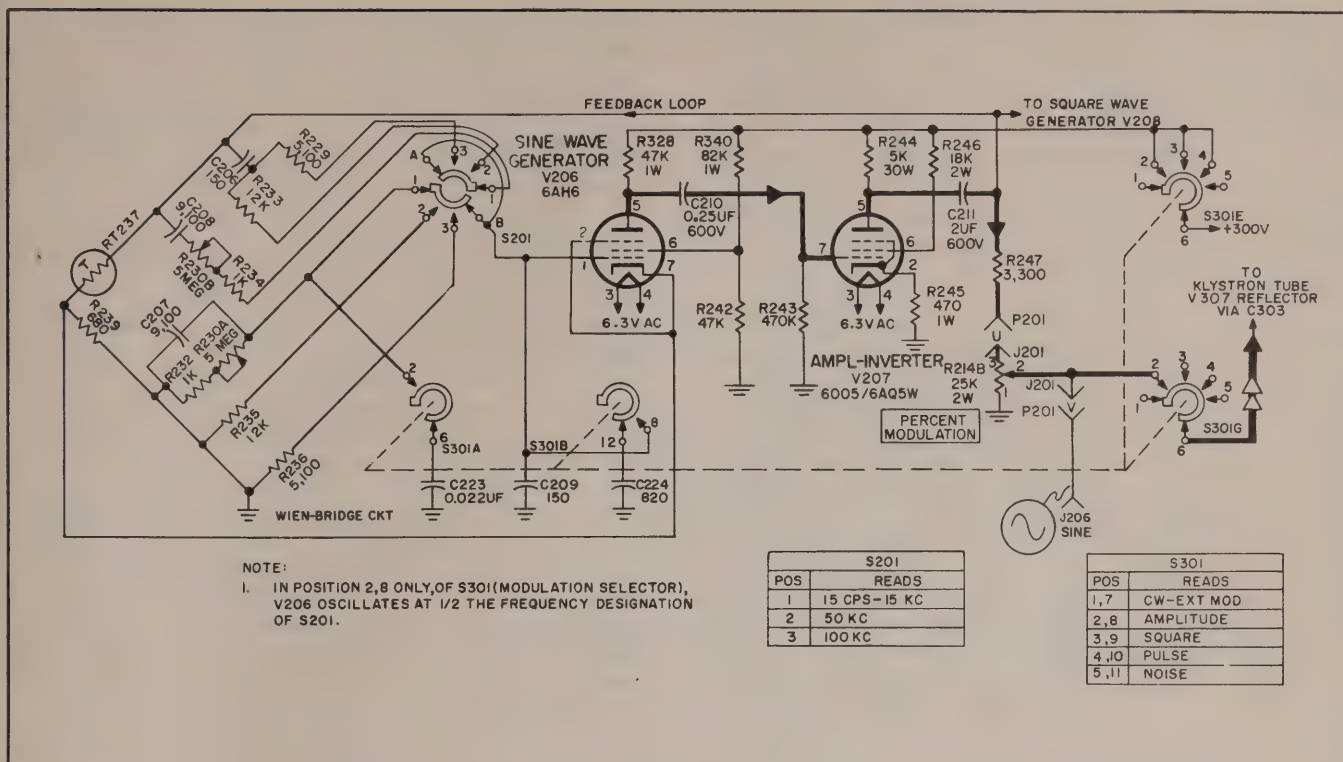

Figure 6-4. Sine-wave Generator, Simplified Schematic Diagram
6-10. INTRODUCTION. The sine wave generator (see figure 6-4) is a Wien-bridge type oscillator with selectable bridge circuit. The selectable bridge consists of resistance-capacitance networks, a thermistor RT237, a frequency selector switch S201, and a variable frequency control R230A-R230B. The oscillator consists primarily of tubes V206 and V207. Fundamentally, the circuit is a feedback amplifier with positive feedback for a frequency selected by the Wien-bridge network. It is an oscillator by virtue of the positive feedback loop. The following paragraphs describe the oscillator and Wien-bridge circuits.
**6-12. WIEN-BRIDGE CIRCUIT.** The bridge circuit is used to eliminate all frequencies except the desired frequency. The Wien-bridge allows a voltage of only one frequency to be fed back from V207 to V206 because of degeneration and phase shift provided by the circuit. The fixed legs of the Wien-bridge consisting of thermistor RT237 and resistor R239 provide degenerative feedback. This feedback is practically constant for all frequencies. The variable legs of the Wien-bridge for 100 kc frequency, as shown in figure 6-4, consist of capacitors C206 and C209, and resistors R229 and R236. They provide positive (regenerative) feedback equal to the negative (degenerative) feedback only at the desired frequency. Thermistor RT237 is used to stabilize the amplitude of oscillation. If the amplitude of oscillation increases, the current through the thermistor will increase, and because of non-linearity, the resistance